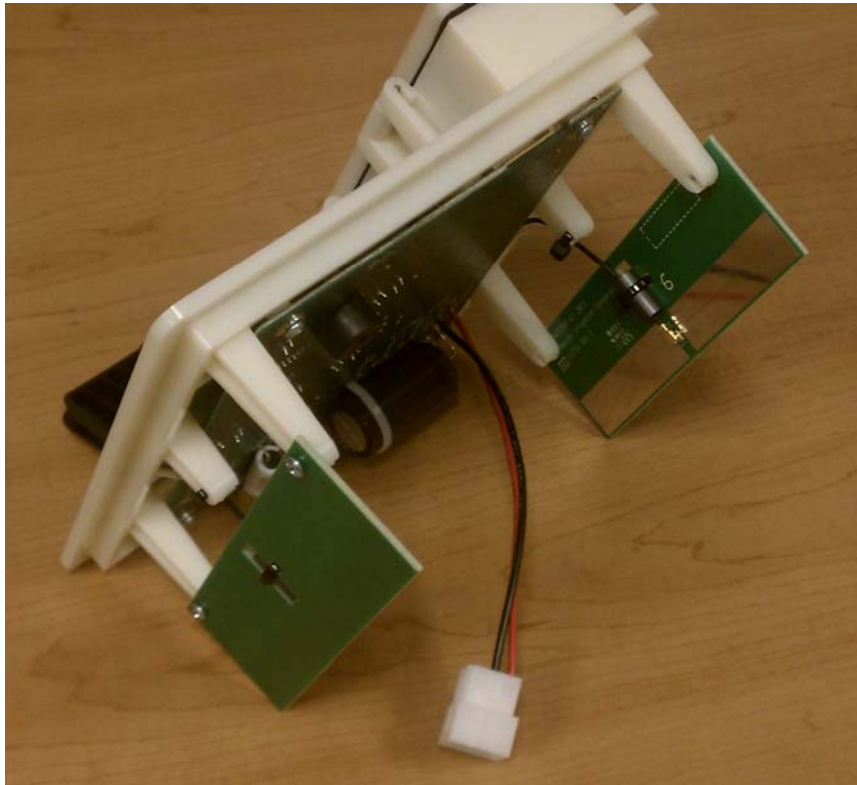

Figure 1
- e) Mount TWIG PCB and antennas on plastic subassembly frame as shown in figure1 below.